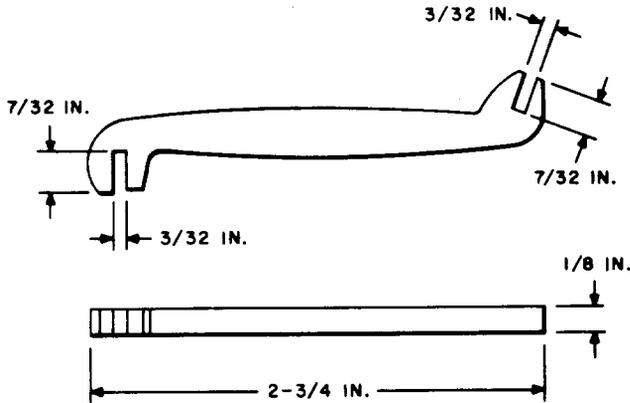

Fig. 3 — AECO H-7067 Adjuster Tool
2.03 AECO H-7067: The AECO H-7067 tool (Fig. 3) is an adjuster used on 197- and 198-type switches and solenoid-type master switches.